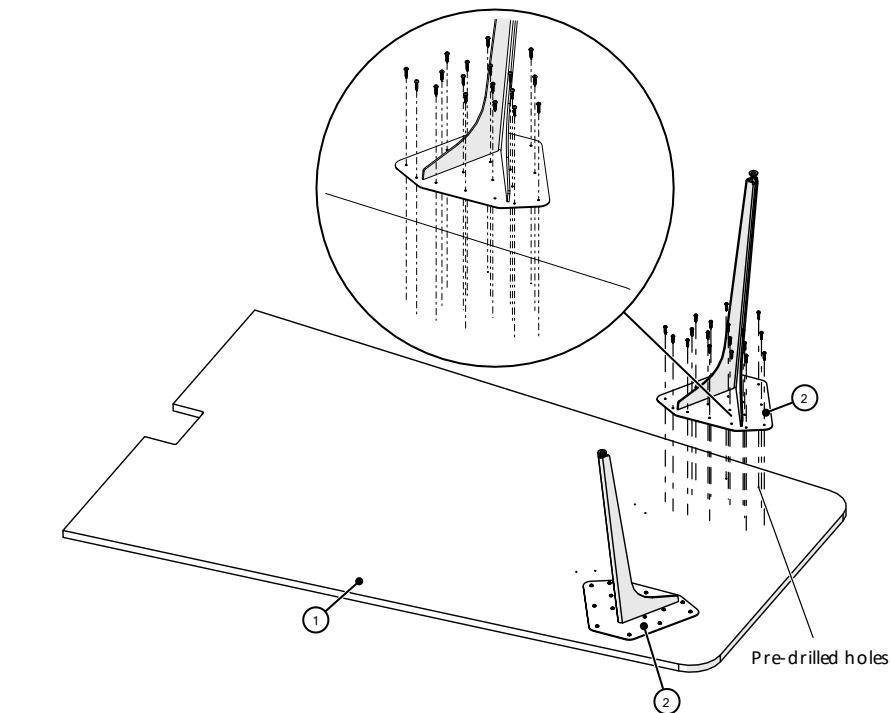

Figure 1
2. Position the V-leg on underside of worksurface. Attach the V-Leg by inserting (18) #10 x 1" Pan Head Screws into the pre-drilled holes and tighten, (Figure 1).